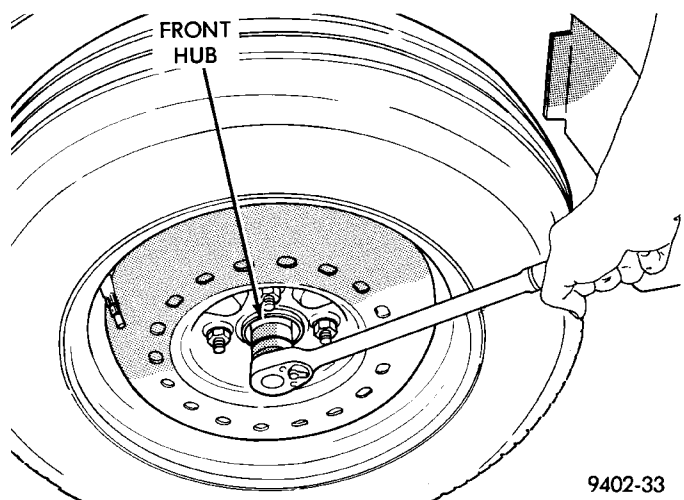

Fig. 4 Loosening Front Hub Retaining Nut
(2) Loosen (but do not remove) stub axle-to-hub/bearing retaining nut (Fig. 4). Loosen hub nut while vehicle is on the floor with the brakes applied. The front hub and driveshaft are splined together and retained by the hub nut.